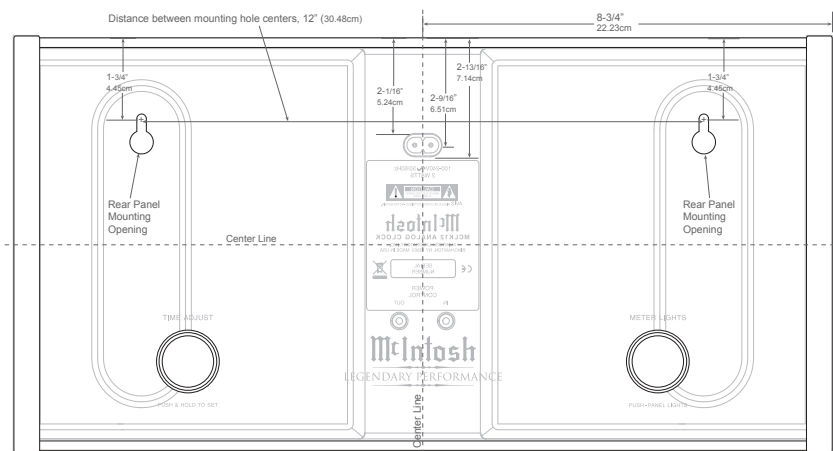

Figure 1
1. Use the supplied MCLK12 Mounting Template sheet (drawn actual size) to determine the clock's location on the wall. Refer to figure 1.
into the drywall as indicated on the Mounting Template. Refer to figures 1 and 3.